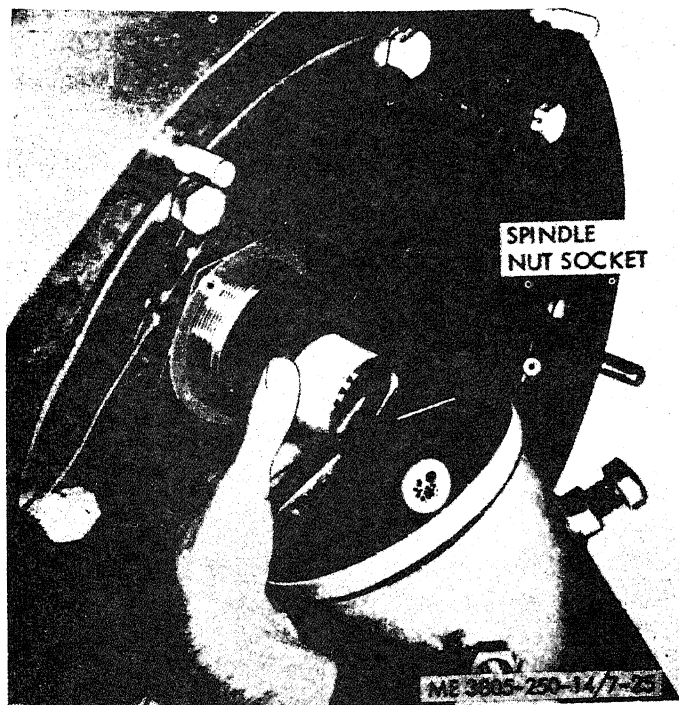

Figure 7-25. Spindle nut removal.
(2) Remove retaining ring (7) and slide the sun gear (8) from the planetary carrier assembly.
(3) Remove two capscrews (9) and two lockwashers (10) from the carrier. Remove five bolts (11), five lockwashers (12), five nuts (13), five lockwashers (14) and five tapered dowels (15) securing the carrier to the hub. Remove studs (16) only if replacement is needed. Install two forcing bolts in the holes from which bolts (9) were removed, and force the carrier assembly from the hub.
(4) Press the planetary pins (17) with their retaining balls (18) from the planetary carrier. Remove the three planet pinions (19), thrust washers (20 and 21), pinion rollers (22) and pinion roller spacer (23) from the carrier (24).
(5) Straighten the tangs on lockwasher (26). Wrap several turns of shim stock around the axle shaft. Fabricate the special spindle nut socket (fig. 5-11) and install on the out side spindle nut (25) as shown in figure 7-25. Lightly tighten the guide bolts.